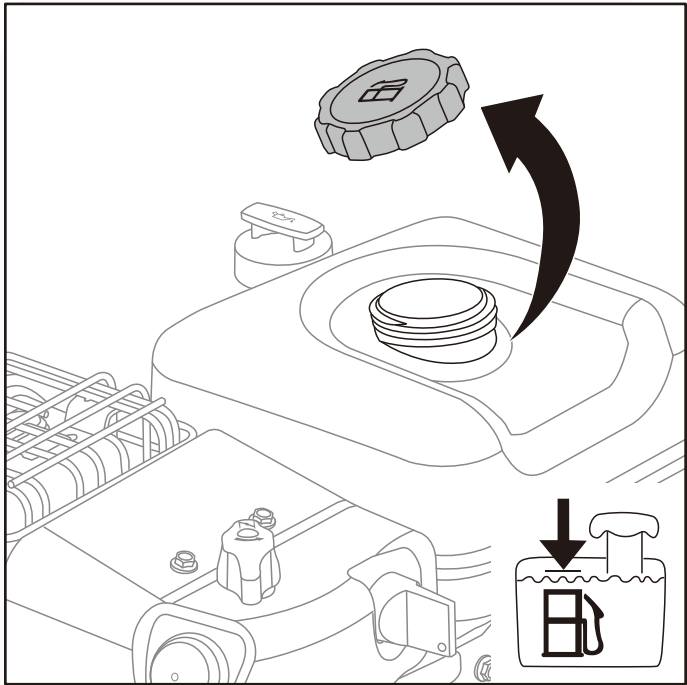

Fig.6
2. Remove the fuel cap. (Fig.6)